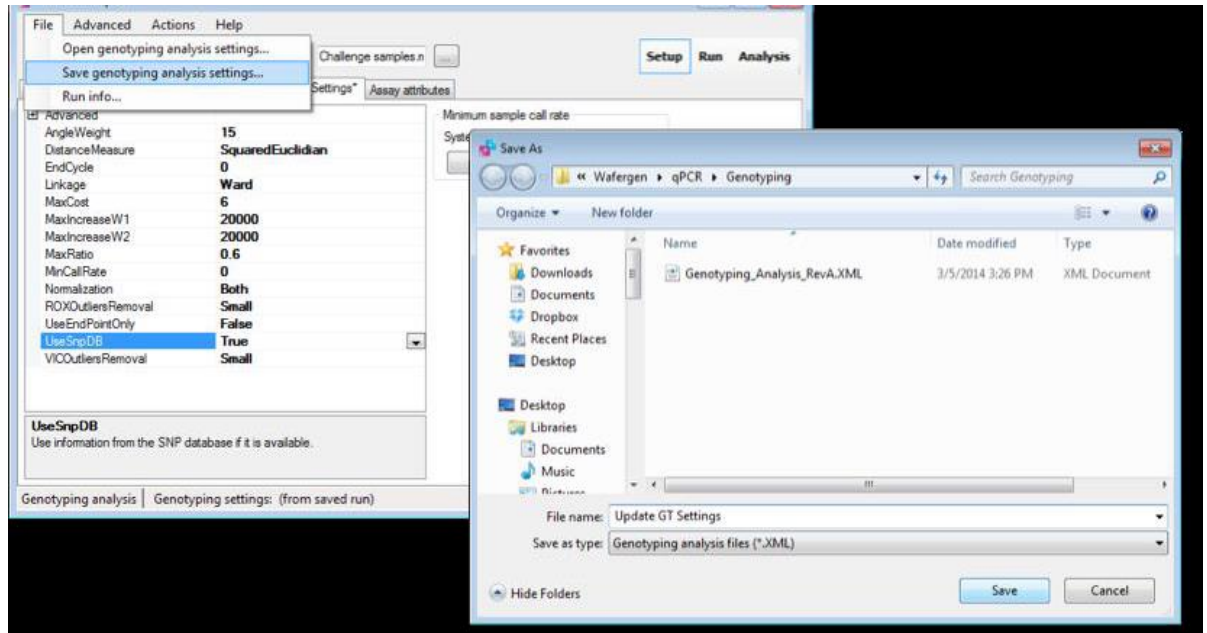

Figure 58. Saving adjusted genotyping analysis settings.
- c. Save your adjusted genotyping settings: From the **File** drop-down menu, select **Save genotyping analysis settings**. In the window that opens (Figure 58), choose a logical name and file location for the settings and click [Save].